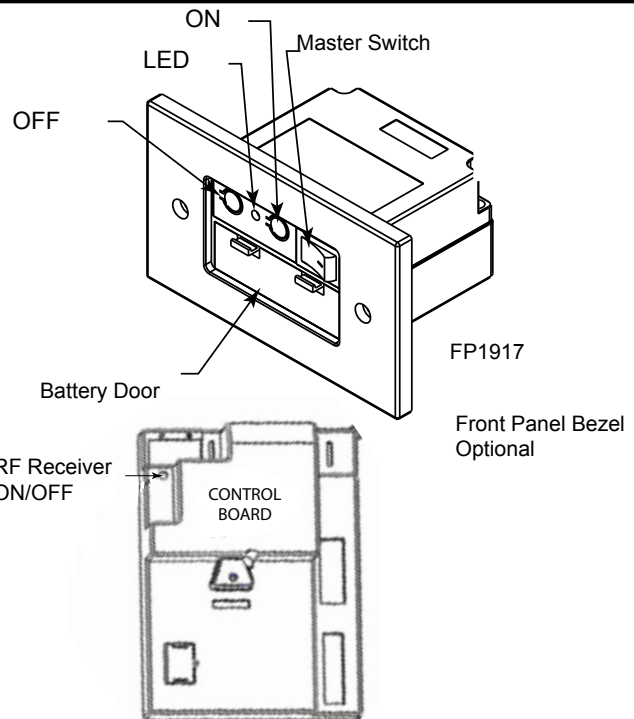

Figure 62 Command center and control board
- The RF receiver button on the control board in the stove must be in the ON position before the learn function can begin. With the Command Center master switch in the ON position, use paper clip to depress the recessed button on Control Board, one beep for RF receiver ON or two beeps for RF receiver OFF. Figure 62
- Holding the OFF button on the Command Center while turning on the master switch will activate the learn function for the transmitter. Figure 62